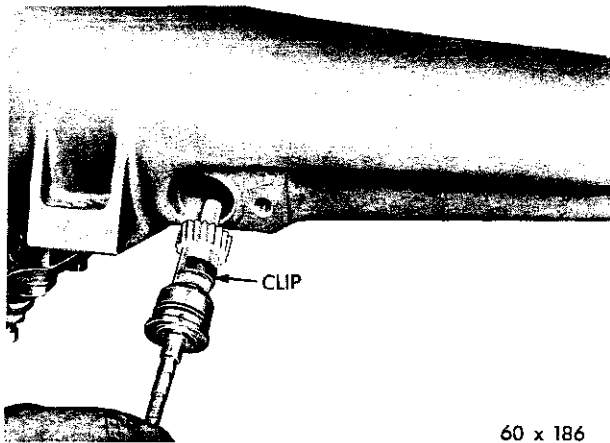

Fig. 30—Removing or Installing Speedometer Pinion
(1) Remove screw and retainer securing the speedometer cable to the extension housing. Carefully work the pinion and sleeve assembly out of the housing (Fig. 30).
(2) To replace the pinion and/or oil seal, pry the clip off the pinion and slide the pinion assembly off the cable. Install a new seal on the cable housing.
(3) If transmission fluid is found in the cable